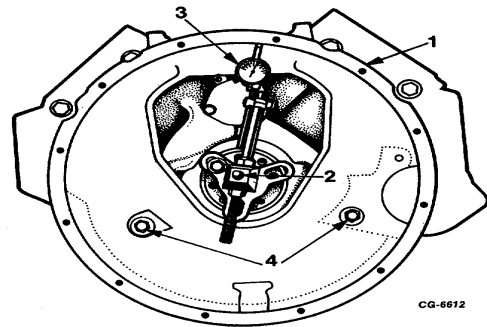

Fig. 150 Checking Flywheel Housing Alignment
18. Rotate cylinder block to horizontal position with top of block facing upward. Place flywheel housing in position over two aligning roll pins and tap into cap-screws (with flat washers) and tighten in sequence shown in Figure 150.
19. Using aligner tool SE-1834 and dial indicator, check flywheel housing alignment (Figure 150). Run-out (out-of-round) should not exceed specified limits. (See SPECIFICATIONS.)
If flywheel housing alignment out-of-round exceeds specified limit or if either flywheel housing or crankcase is being replaced remove roll pins, align flywheel housing with dial indicator and ream roll pin holes with standard tapered reamer, 12.7 mm ($\frac{1}{2}$ inch) to accommodate oversize roll pins (Figure 150).